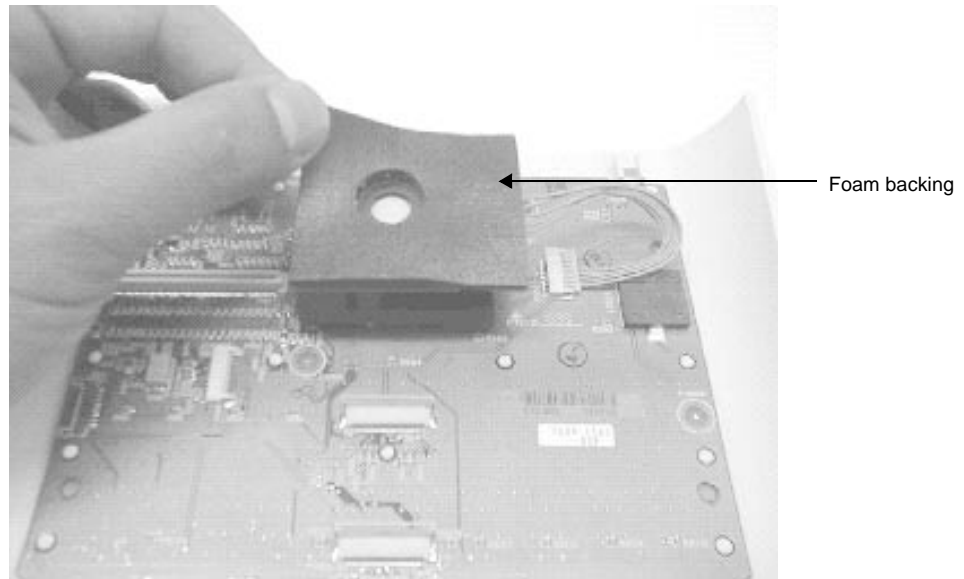

Figure 7.10 Removing the Foam Backing
- 11** Remove the foam backing from the Trackball to expose the four screws connecting the Trackball to the Control Panel Subassembly (Figure 7.10).